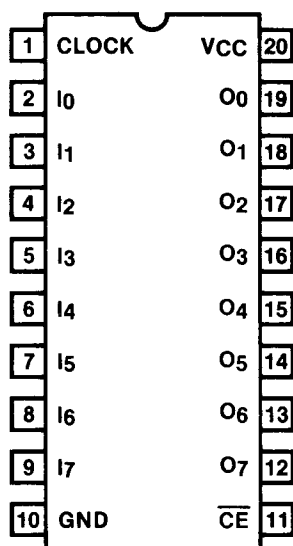

Figure 2-5. Pin Identification
1. After the selected inputs, I_0 through I_7 (Figure 2-5), and V_{CC} at 4.5 to 5.0 V, have been stable for T_1 , raise the "Enable" (pin 11) to V_{EP} . (See Table 2-20.)
9. Should the output not verify, repeat steps 2 through 8 up to five (5) times.